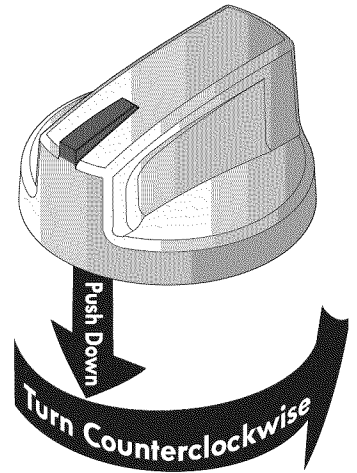

Figure 2
3. Release the knob and rotate to the **LITE** position (Figures 2 & 3). Note: All electronic surface ignitors will spark at the same time. However, only the selected surface Burner will lite.
2. Push the surface control knob in and turn **counterclockwise** out of the OFF position (See Figures 2 & 3).